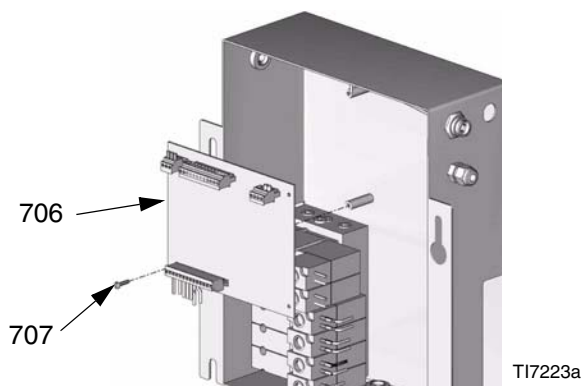
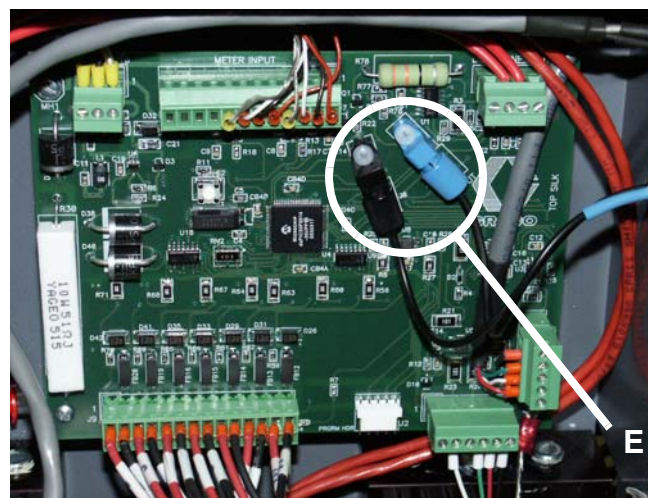

FIG. 20
FIG. 22: Wall Mount Fluid Panel Circuit Board
3. Disconnect fiber optic wires and all cables (J1, J3, J4, J5, J6, J9, J10) from control board (706). FIG. 20.
4. Remove 4 screws (707). Remove control board (706). FIG. 20. (RoboMix Fluid Panel not shown; use same procedure.)
5. Install new control board (706) with 4 screws (707).
6. Connect cables to control board (706). FIG. 22. Insert fiber optic cable connectors (J4, J6) into board connectors (E), matching blue with blue,
black with black, and hand-tighten connectors (E). FIG. 22 and FIG. 22.